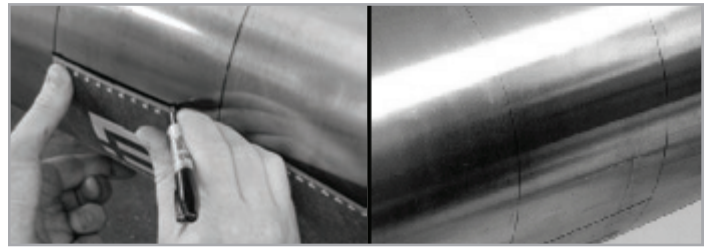

Figure 30: Marking the 3 o'clock position
3. Line up the zero scale of the layout tape at the desired location of the first transducer. (For a typical installation, this point will be the 3 o'clock position on a horizontal pipe.) Mark each of the two circumferential lines at the zero point. Connect each of these marks using a straight edge (for example, the edge of the layout tape) as shown in Figure 30 below.